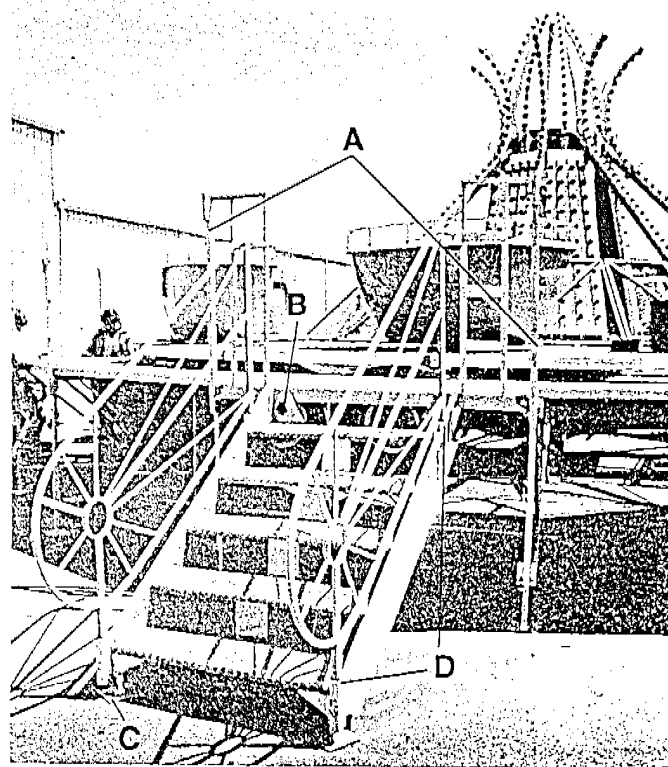

Fig. 18
a. Install the step jack support frames (a) at the 2 exit areas of the walkway platform. Secure each step jack support frame to the 2 vertical bars that extend up from the walkway support frame sections at either side of the exit areas. (Fig. 18)
b. Hook the holes in the fastening plate on the steps over the knobs on the step jack support frame (b). (Refer to Fig. 18)
c. Install the jack stands in the sockets under the lower step (c). Install the snap key in a hole in each jack stand leg. Allow the steps to rest on the keys. NOTE: The jack stands for the steps have round legs. (Refer to Fig. 18)
d. Slide the legs of the handrails for the steps into the sockets at both sides of the steps (d). (Refer to Fig. 18)